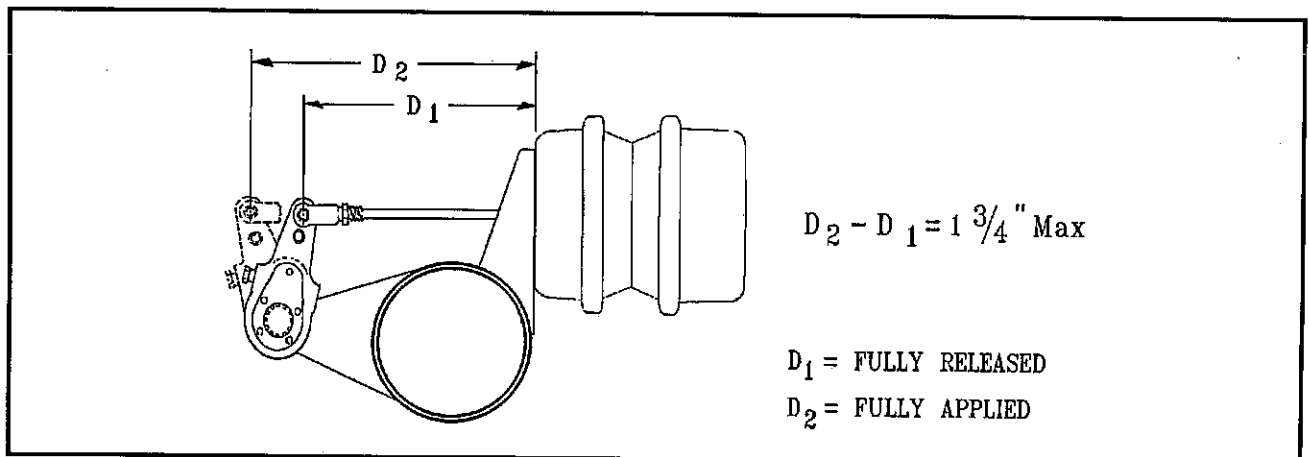

FIG. 6-4 CHECKING BRAKE ADJUSTMENT
b. Measure the distance (D₁) from the face of the brake air chamber to the center of the slack adjuster linkage pin in (See FIG. 6-4).